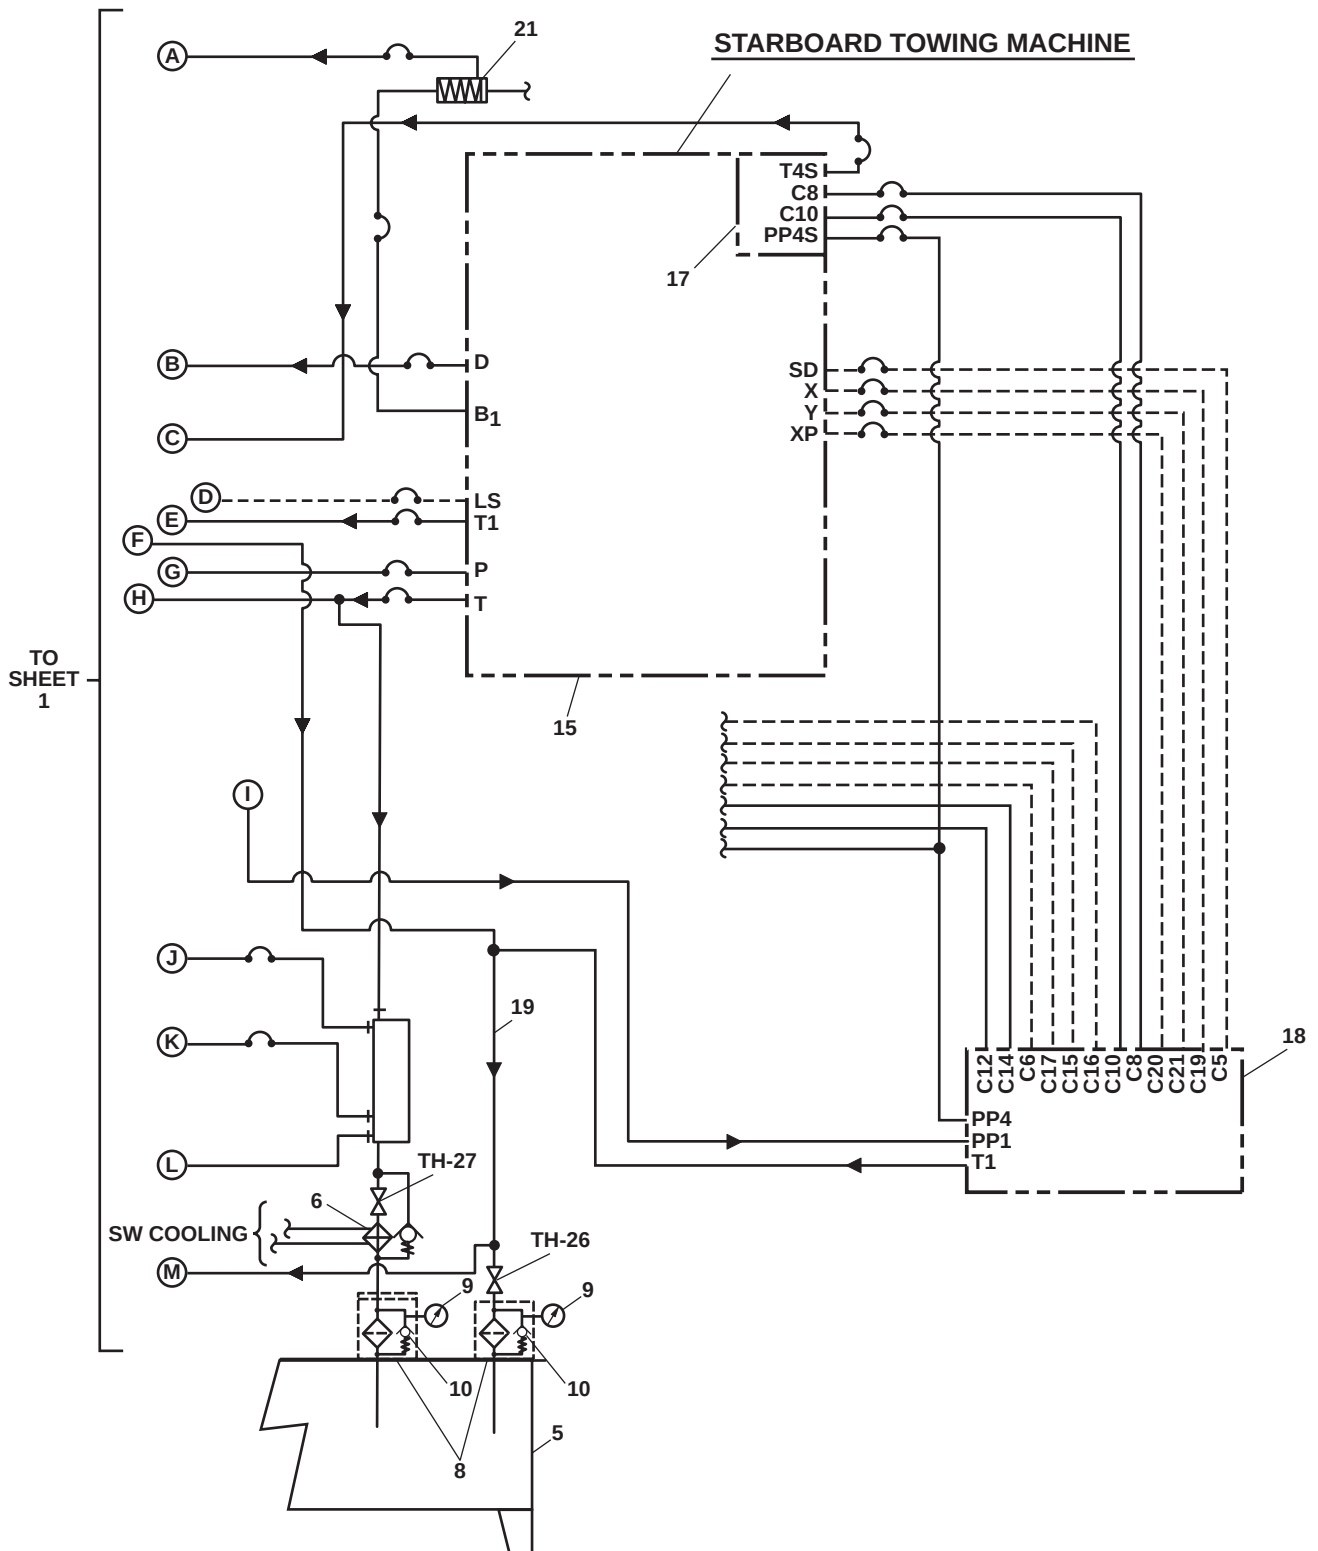

Figure 5. Towing Machine Hydraulic System (Sheet 2 of 2)
A diesel engine-driven, dual vane, hydraulic pump (figure 5, sheet 1, item 1) provides the hydraulic power for the towing machine hydraulic system. The hydraulic pump is actually two hydraulic pumps in one housing. One hydraulic pump section is rated at 69 gal/min (261 L/min) at 1800 r/min while the other hydraulic pump section is rated at 38 gal/min (144 L/min) at 1800 r/min. This dual vane hydraulic pump arrangement permits the towing machine hydraulic system, when properly configured, to supply the central hydraulic system and the towing machine hydraulic system simultaneously. Each dual vane section is provided with its own check valve (figure 5, sheet 1, item 2). The check valves prevent one vane section from backfeeding into the other during hydraulic pump operation.
Two relief valves are installed in the towing machine hydraulic system. The first relief valve is the system relief (figure 5, sheet 1, item 3). This valve is set to open at 3300 PSI (228 bar) to prevent overpressurization of the towing machine hydraulic system. The second relief valve (figure 5, sheet 1, item 4) is set to open at 2800 PSI (193 bar). Under heavy system loading, this valve opens and permits the flow from the lower volume vane section to flow unrestricted back to the reservoir. This action effectively unloads the lower volume vane section, preventing the hydraulic pump from overloading the diesel engine.
A 350 gallon (1325 liter) reservoir (figure 5, sheets 1 and 2, item 5) contains the hydraulic fluid for the towing machine hydraulic system. The reservoir also acts as a mounting point for the heat exchanger, the filters, and the gauges and indicators for the towing machine hydraulic system.
A heat exchanger (figure 5, sheet 2, item 6) is provided to cool the hydraulic fluid. As the hydraulic fluid returns to the reservoir (figure 5, sheets 1 and 2, item 5), it flows through the heat exchanger where its heat is dissipated to the raw water that is pumped through the heat exchanger. A solenoid actuated valve controls raw water flow to the heat exchanger. The valve permits raw water to flow through the heat exchanger when the hydraulic fluid is hot and secures the flow when it is cold. Additional hydraulic fluid cooling is also provided by dissipation of heat through the walls of the reservoir to the air in AMS 1.
A suction strainer (figure 5, sheet 1, item 7) is located in the hydraulic pump (figure 5, sheet 1, item 1) suction line. This suction strainer removes the larger particulate contaminants from the hydraulic fluid before it enters the hydraulic pump. Two return filters (figure 5, sheet 2, item 8) remove smaller particulate contaminants, down to 10 microns, from the hydraulic fluid before it is returned to the reservoir (figure 5, sheets 1 and 2, item 5). Each return filter is fitted with a restriction gauge (figure 5, sheet 2, item 9) and a bypass valve (figure 5, sheet 2, item 10). If the filter restriction rises above 25 PSI (1.7 bar), the bypass valve opens, permitting hydraulic fluid to bypass the filters and return to the reservoir. Because permitting unfiltered hydraulic fluid to return to the reservoir opens the door to eventual system failure, the restriction gauge is provided to enable timely return filter changes. Performing regular return filter changes helps to ensure that the central hydraulic system and its components enjoy a long service life.
Pressure gauges (figure 5, sheet 1, item 11) are installed to provide an indication of the system operating pressure. The gauges measure pressure from both dual vane sections of the hydraulic pump (figure 5, sheet 1, item 1) as well as drain pressure. A combination hydraulic fluid level/hydraulic fluid temperature indicator (figure 5, sheet 1, item 12) is also installed to permit monitoring of hydraulic fluid level and temperature.
When the diesel engine is started, the hydraulic pump (figure 5, sheets 1 and 2, item 1) begins turning. As it turns, it draws hydraulic fluid from the reservoir (figure 5, sheets 1 and 2, item 5) through the suction strainer (figure 5, sheet 1, item 7) and into the vane sections' inlets. The hydraulic pump pressurizes the hydraulic fluid in response to the amount of restriction on the system. If the restriction is low (no load applied), system pressure is very low. If the restriction is high (load applied), the system pressure will vary in response to the load. The pressurized hydraulic fluid exits the pump and flows through the supply piping (figure 5, sheet 1, item 13) to the towing machines (figure 5, sheet 1, item 14; figure 5, sheet 2, item 15) and their controls (figure 5, sheet 1, item 16; figure 5, sheet 2, items 17 and 18) where the hydraulic pressure and flow are transformed into physical work. Hydraulic fluid exiting the downstream components returns to the reservoir through the return piping (figure 5, sheet 2, item 19) and the return filters (figure 5, sheet 2, item 8).